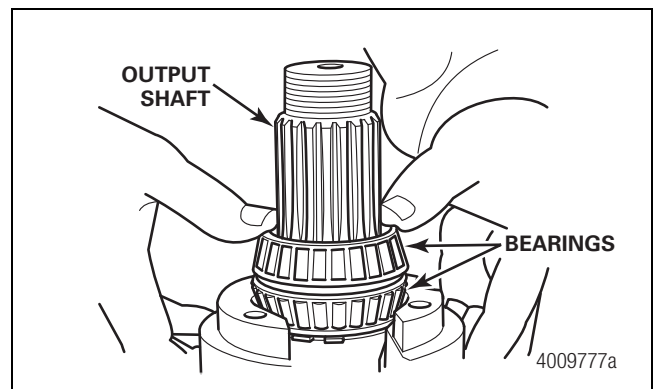

Figure 3.17
9. If necessary, remove the bearings from the output shaft. Use a press to push on the inner race of the bearing. Note that if the output shaft bearings are removed for any reason, you must replace them with new cones and cups. Figure 3.17.